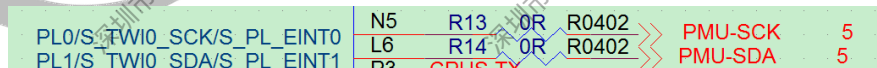

Figure 2-15 TWI Communication Bus
- The PL0/PL1 is the TWI communication port between SoC and PMIC and has 4.7 kΩ internal pull-up resistors, so it is not recommended to share the PL0/PL1 port with other I2C devices. As shown in Figure 2-15.